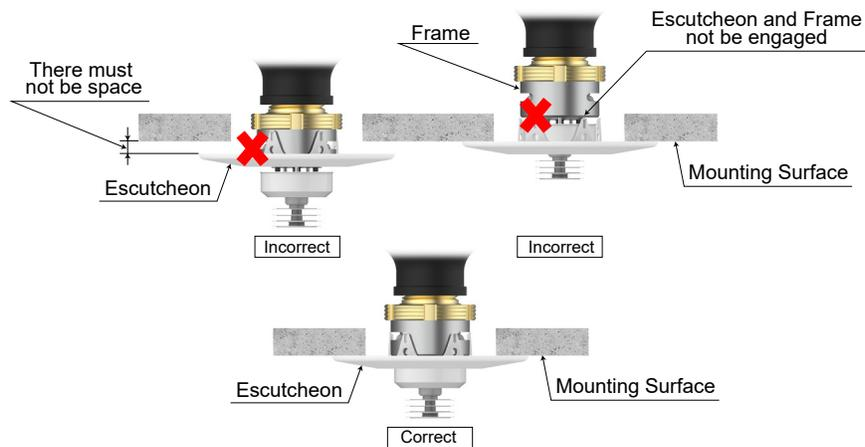

Figure 7: Installation (Correct and Incorrect)
Step 6: After the ceiling has been completed with the 2-inch (50mm) diameter clearance hole, use the Protective Cap Removal Tool (Ref. Figure 5) to remove the Protective Cap and then push on the Escutcheon until its flange just comes in contact with the ceiling (Ref. Figure 6 & Figure 7).